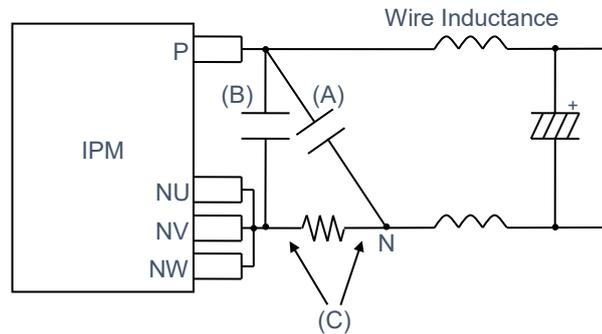

Figure 3.5.1 Recommended Snubber circuit location
- (D) Wiring to the CIN pin should be divided near the shunt resistor terminal and as short as possible.
- (E) Place snubber capacitor between the P pin and point N and closely to terminals.
- (F) Wiring should be as short as possible. Floating control supply wire potential fluctuates between the P pin and the GND at switching. Therefore, it may cause the malfunction if low potential wires (e.g. control input pin, control supply) are located near or cross these switching wires. Please pay attention particularly when using multi layered PCB.
- (G) Bootstrap negative electrodes should be connected to the U, V, W pins directly and separated from the main output wire.
- (H) Wiring should be as short and as thick as possible.
- (I) Wiring should be as short as possible in order to prevent the malfunction due to noise.
- (J) Connect CIN filter's capacitor to control GND (not to power GND).
- (K) Capacitor and Zener diode should be located closely to the LVCC and GND pins.
- (L) Capacitor should be located closely to the HVCC pin.
In order to protect IPM from extra surge, the wiring length between the smoothing capacitor and the P pin-N points (shunt resistor terminal) should be as short as possible. Also, from 0.1μF to 0.22μF snubber capacitor should be mounted in the DC-link and near to the P pin and N points. There are two positions ((A) or (B)) to mount a snubber capacitor as shown in Figure 3.5.1 Recommended Snubber circuit location.